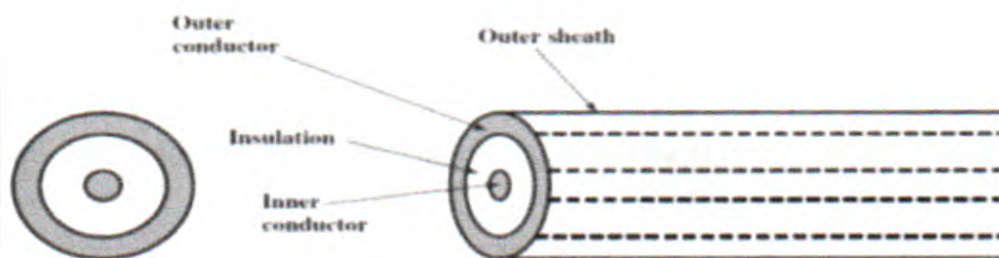

Figure 1.2: Coaxial Cable
- Coaxial Cable:** It consists of a hollow outer cylindrical conductor that surrounds a single inner wire conductor. A single coaxial cable has a diameter of from 1 to 2.5 cm as shown in Figure 1.2. Coaxial cable can be used over longer distances and support more stations on a shared line than twisted pair.